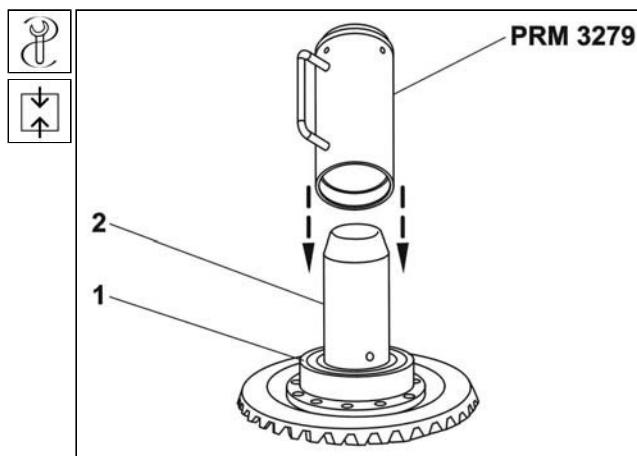

Fig. 7.149 Installation of the front bearing of the crown gear hub
11. Place the space washers on the bearing **1** (See Fig. 7.149).